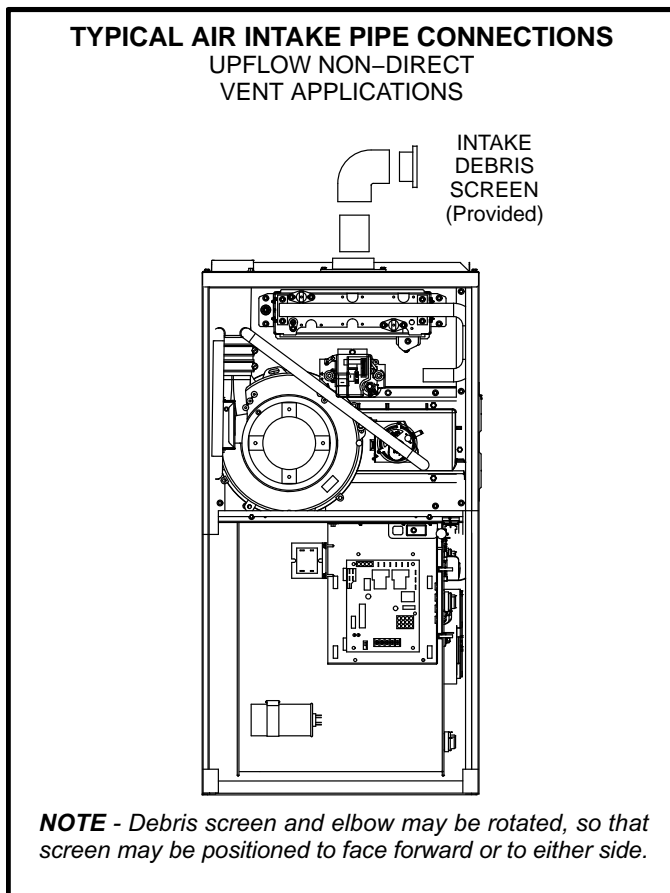

FIGURE 31
- 1 - Use field-provided materials and the factory-provided air intake screen to route the intake piping as shown in figure 31 or 32. Maintain a minimum clearance of 3" (76mm) around the air intake opening. The air intake opening (with the protective screen) should always be directed forward or to either side in the upflow position, and either straight out or downward in the horizontal position.